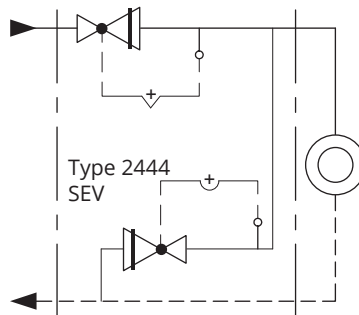

Fig. 6: Schematic drawing showing pressure protection of a house substation by a SEV and a SSV
- ➔ See schematic drawings of typical installations (Fig. 5 and Fig. 6).